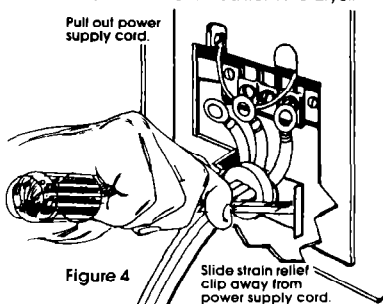

Figure 4
3. Use a screwdriver to slide the strain relief clip away from the power supply cord (See Figure 4).